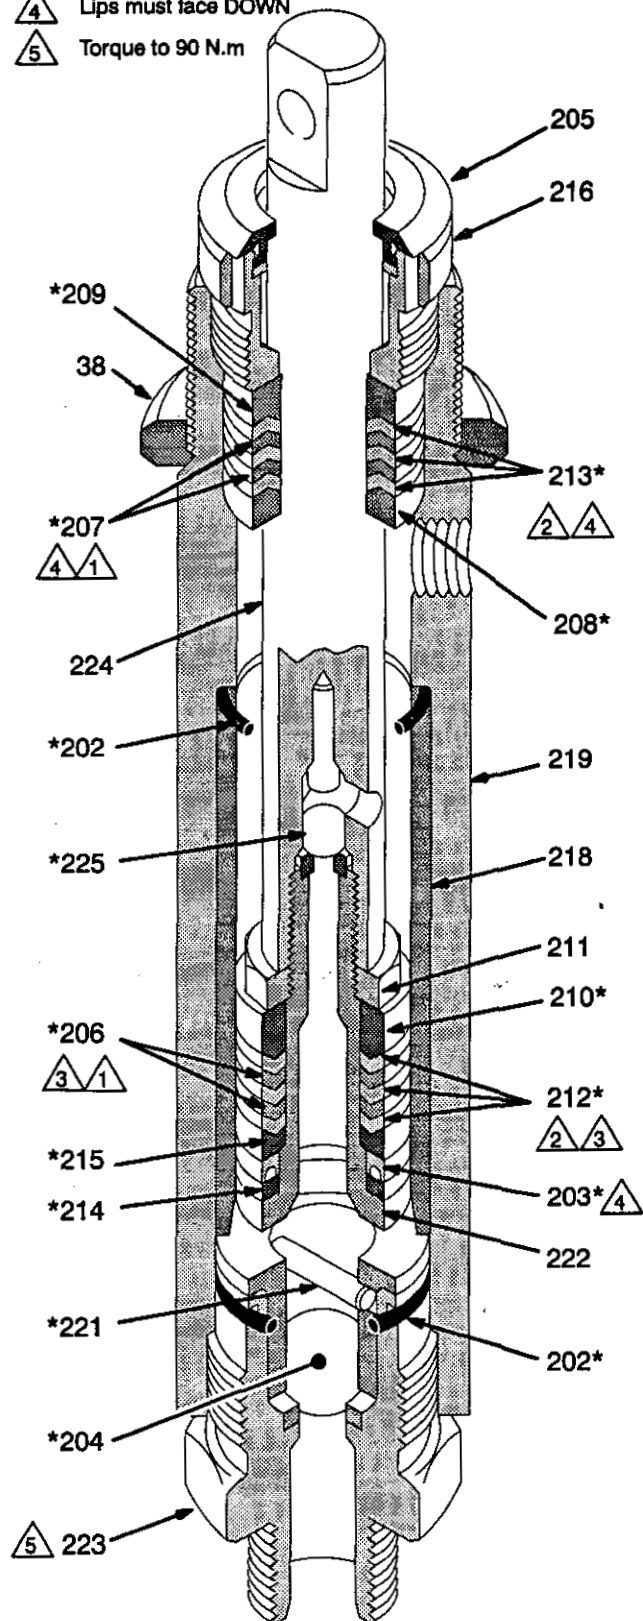

Fig. 29
NOTE: Alternate leather and plastic packings as shown in Fig. 29. Be sure the lips of the v-packings face the direction shown. Incorrect installation damages the packings and results in pump leakage.
- Check the piston rod (224) and the inside of the sleeve (218) for scoring or scratches. If these parts are damaged, new packings will not seal properly.
- Stack the piston packings onto the piston (222) as shown in Fig. 29.
- Tighten the piston nut (211) onto the piston to 1.2 N.m to seat the packings, and then back off and tighten finger tight.